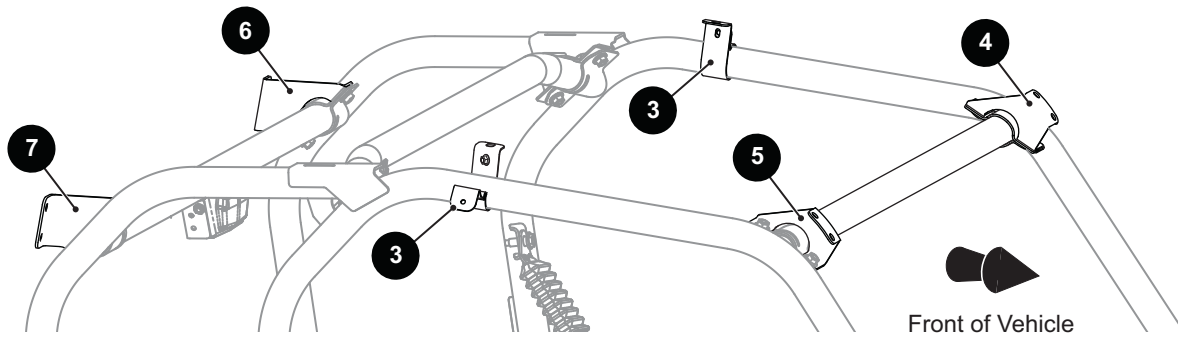
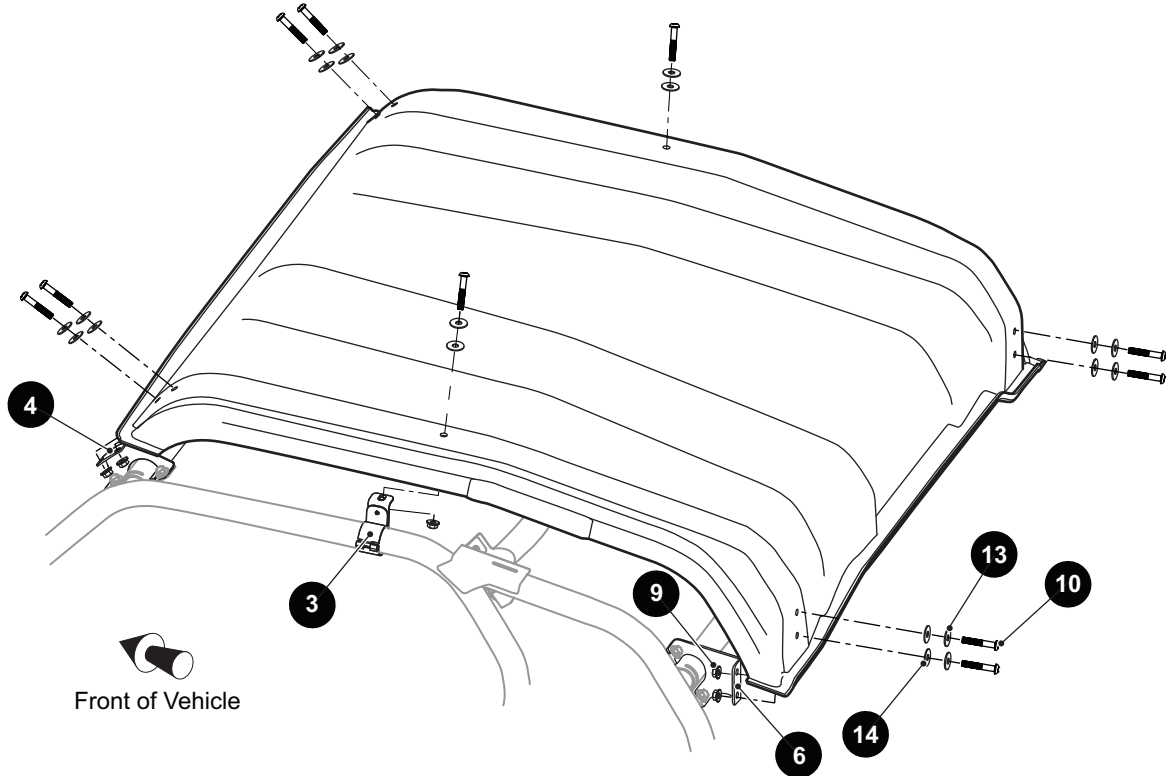

Fig. 2 Canopy Mounting Clamps
Fig. 4 Canopy
1. Place canopy clamps (3), with the hinged side facing out, onto each side ROPS tube (Ref. Fig. 2).
1. Align the mounting holes on the canopy with the holes in the mounting brackets (4-7) and canopy clamps (3) (Ref. Fig. 2) (Ref. Fig. 4).
2. Slide the canopy clamps (3) along the ROPS tube so they are aligned with the canopy mounting holes.
3. When the canopy clamps are aligned with the canopy mounting holes, tighten the canopy clamp bolts (11) to 7 - 9 ft. lbs. (10 - 12 N-m) torque.
4. Secure the canopy to the clamps and brackets with Torx bolts (10), washer (13), rubber washer (14) and lock nuts (9).